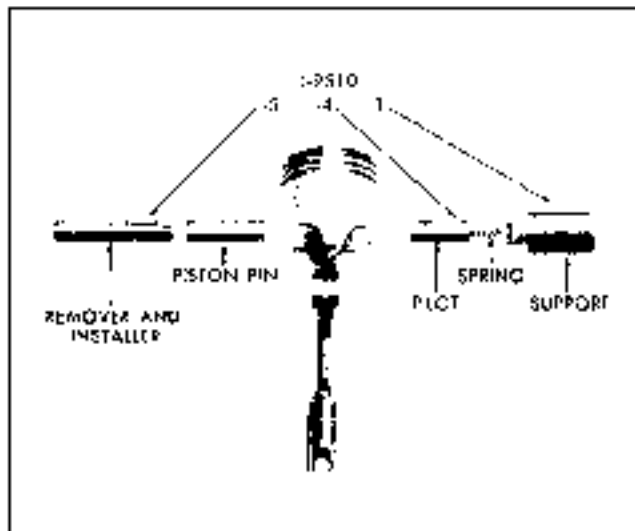

Fig. 6-61 Piston Pin Replacement
3. Install piston pin on installer and pilot spring and pilot (J 9510-4) in support (Fig. 6-61). Use piston pin removing and installing tool J 9510.